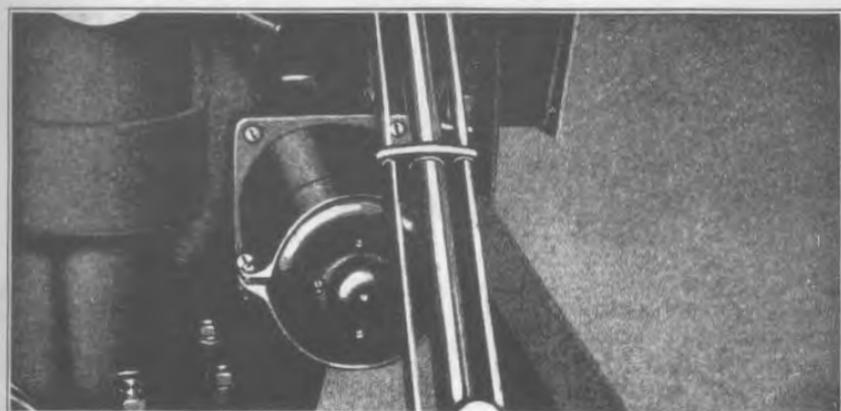

Fig. 297
- 505 Run out the four motor mounting screws which hold starting motor to transmission cover (See Fig. 297).